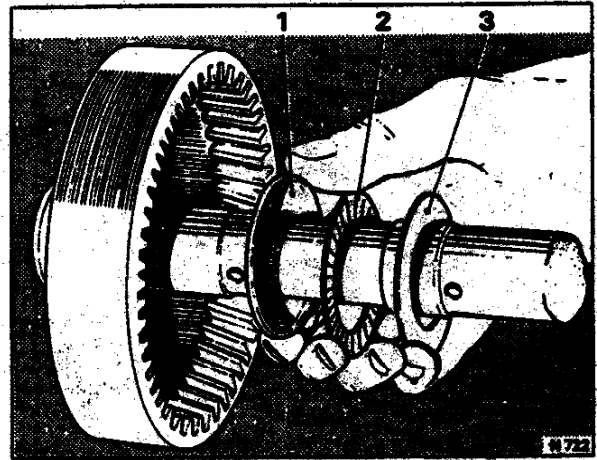

Fig. T118 Fitting the races and thrust bearing to the inner face of the rear internal gear
3. Fit the races and thrust bearing onto the inner face of the rear internal gear, retaining them with a smear of petroleum jelly (see Fig. T118).